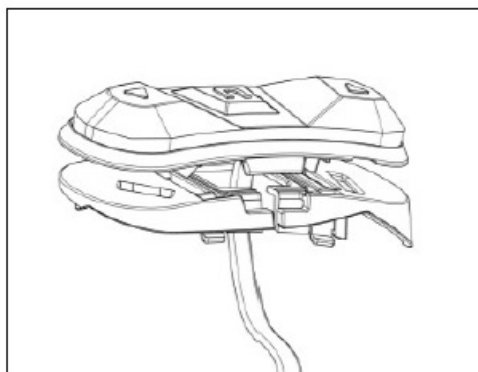
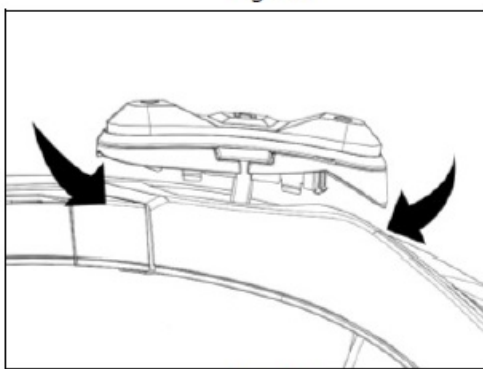

Fig. 19
Fig. 20
- Rotate the keypad support to position it like in Fig. 19, then hook it to the keypad (Fig. 20).